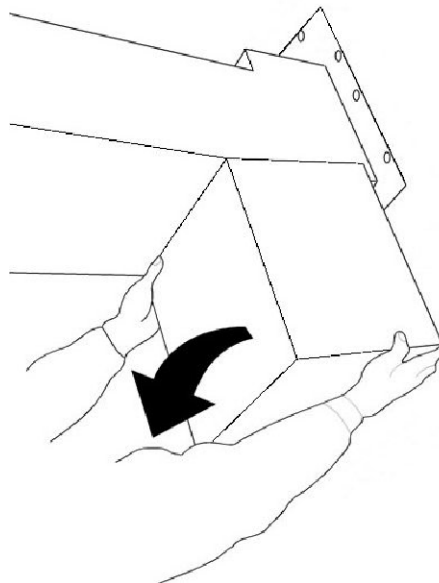

Fig. 5-1 Removing motor safety cover
3. Undo motor safety cover and lift off as shown in Figure 5-1.